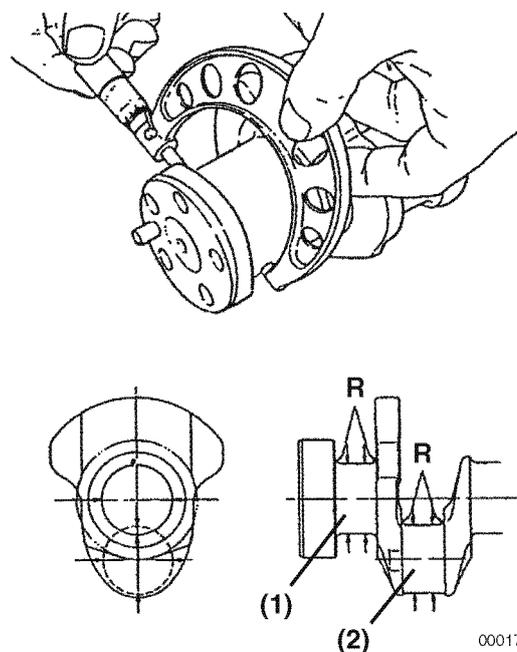

Figure 6-75
5. Measure the outside diameter of each crankpin (**Figure 6-75, (2)**) and main bearing journal (**Figure 6-75, (1)**). *See Crankshaft on page 6-7 for specifications.* Take measurements at several places around each bearing surface. If not within specification, grind the journals and install undersize bearings, or replace the crankshaft. Record the measurements.